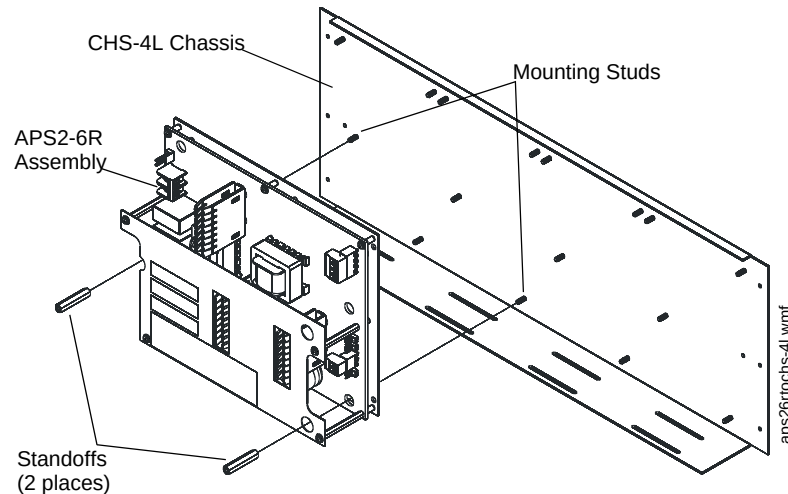

Figure 3.1 Mounting an APS2-6R to a CHS-4L Chassis
1. Place the APS2-6R onto the mounting studs of the chassis. See Figure 3.1 below.
2. Insert a standoff through both of the printed circuit board mounting holes, threading each standoff to the mounting studs on the chassis. Use two (2) #6-32 x 1.25" hex standoffs.